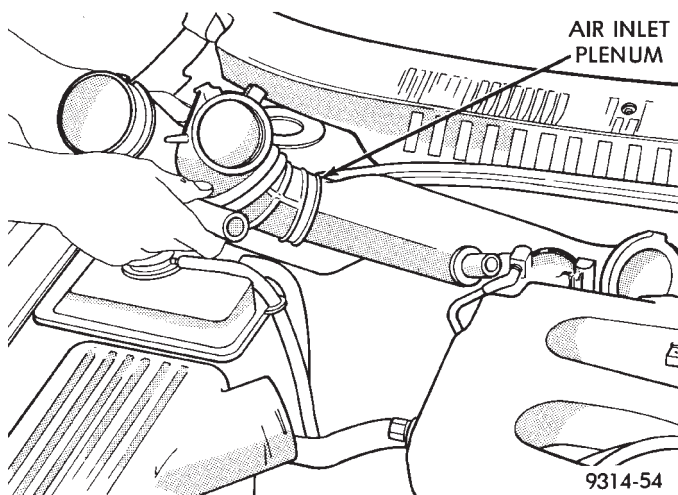
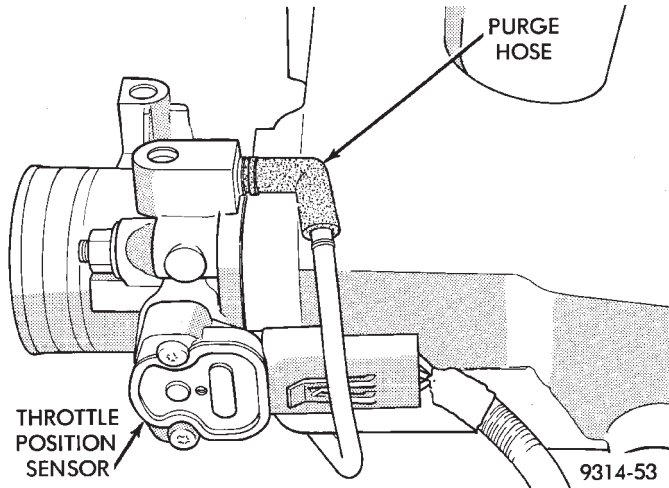
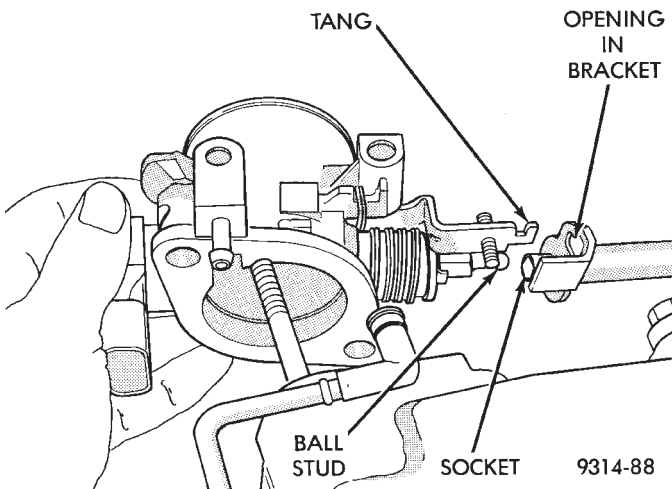

Fig. 65 Air Intake Plenum Removal
Fig. 67 Throttle Position Sensor—3.5L Engine
Fig. 68 Right Throttle Body Removal/Installation
- (1) Disconnect negative cable from battery
- (2) Hold throttle lever in wide open position. Remove throttle cable and speed control cables from throttle arm.
- (3) Remove tube connecting air cleaner to air plenum.
- (4) Disconnect air plenum from throttle bodies, PCV make up air tube and idle air control motor. Remove plenum from the right side of the vehicle (Fig. 65).
- (2) Remove tube connecting air cleaner to air plenum.
- (3) Disconnect air plenum from throttle bodies, PCV make up air tube and idle air control motor. Remove plenum from the right side of the vehicle (Fig. 65).
- (4) Disconnect purge hose from throttle body.
- (5) Disconnect electrical connector from throttle position sensor (Fig. 67).
- (6) Remove throttle body mounting nuts.
- (7) The end throttle body shaft has a ball stud that fits into a socket in the synchronization shaft. Also, the tang on the end of the throttle body lever fits into an opening in the bracket on the synchronization shaft (Fig. 68).
- (8) Slide throttle body back off of mounting studs. Separate the throttle body from the synchronization shaft. Remove throttle body.
- (9) Clean gasket from mating surfaces.
- (1) Position new gasket over throttle body mounting studs.
- (2) Connect throttle body to synchronization shaft. Ensure ball stud on throttle body shaft enters socket in end of synchronization shaft. At the same time, the tang on the throttle lever locks into the bracket on the synchronization shaft (Fig. 68).
- (3) Install throttle body over mounting studs.
- (4) Tighten mounting nuts to 26 N·m (19 ft. lbs) torque.
- (5) Connect purge tube to nipple on throttle body.
- (6) Attach electrical connector to throttle position sensor.
- (7) Check throttle body synchronization. Refer to Throttle Body Synchronization in this section.
- (8) Install air plenum.
- (9) Install air cleaner to air plenum tube.
- (10) Connect negative cable to battery.